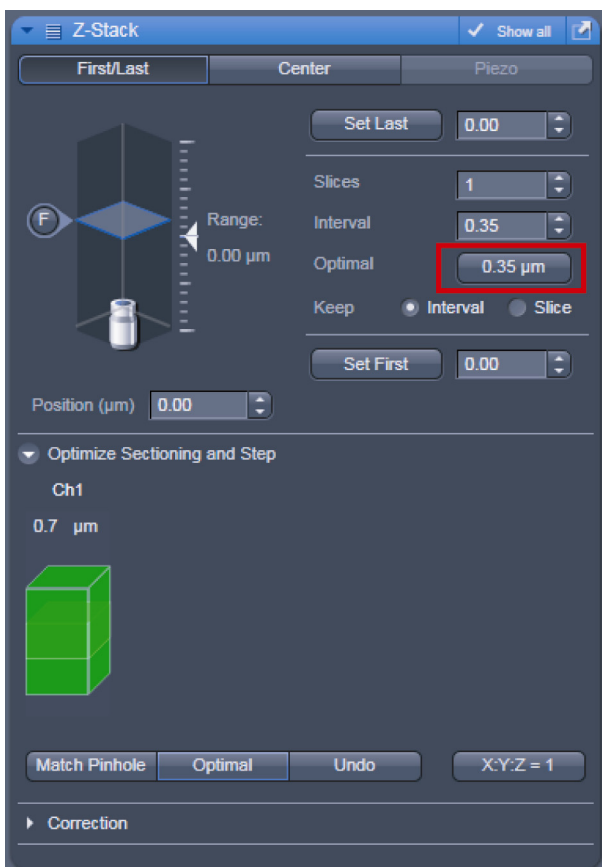

Fig. 5-116 Z-Stack tool
- The **Optimal Interval** box of the **Optimize Sectioning and Step** submenu of the **Z-Stack** tool in **Show all** mode within the **Multidimensional Acquisition** tool group simultaneously displays the depth resolution corresponding to the pinhole diameter (see Fig. 5-116).